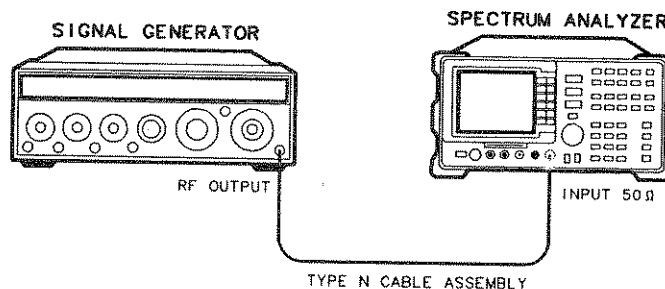

Figure 4-4. Noise Sidebands Test Setup
- Connect the equipment as shown in Figure 4-4. *Option 026:* Use the APC adapter to connect the cable to the analyzer input.